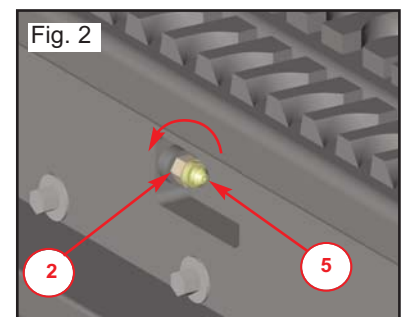

Fig. 2
The grease contained in the hydraulic track is pressurized. Never release grease valve (No. 2, Fig. 2) more than necessary release grease to a maximum of five turns. If the valve is loosened too much you risk expelling grease under pressure and possible injury to the machine operator. Never loosen the grease nipple (No. 5, Fig. 2). Remove gravel or mud when they are jammed between the sprocket and the track link before loosening the track.
3. To loosen a track slowly unscrew valve counter-clockwise (Fig. 2, page 26) only as many turns as necessary to release grease, (maximum of five turns).